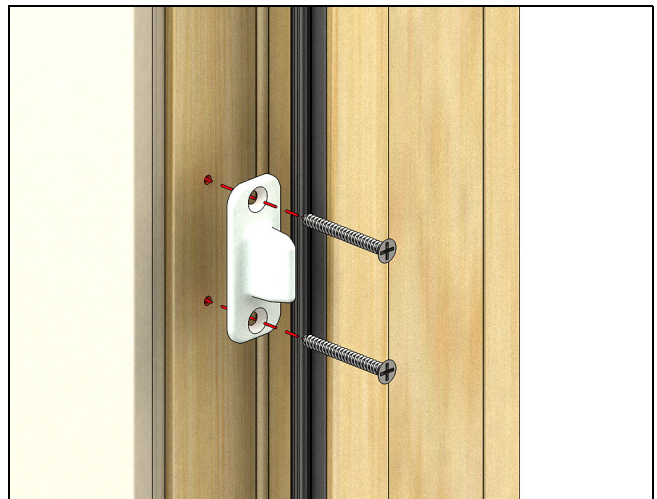

Figure 24
4. Attach the panel alignment bolts to the stile extension with the #8x 1 1/2" flat head color matched screws. See Figure 24.